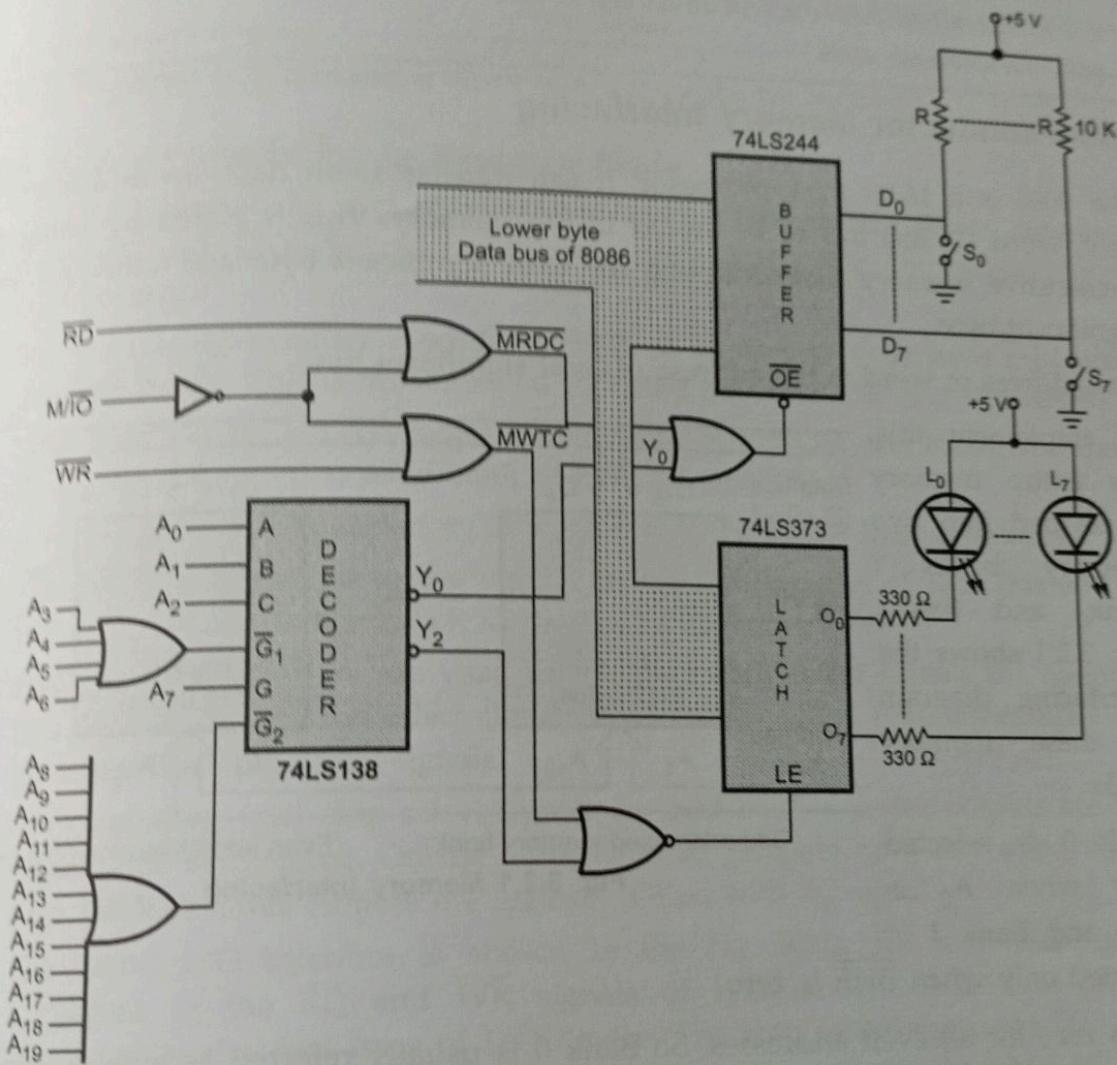

Fig. 3.1.9 I/O Interfacing with memory mapped I/O
- Fig. 3.1.9 shows the I/O interfacing with memory mapped I/O. As shown in the Fig. 3.1.9, the 8086 uses same control signals and instructions to access I/O as
Refer Fig. 3.1.9 and write a program to display the status of switches on the LEDs.